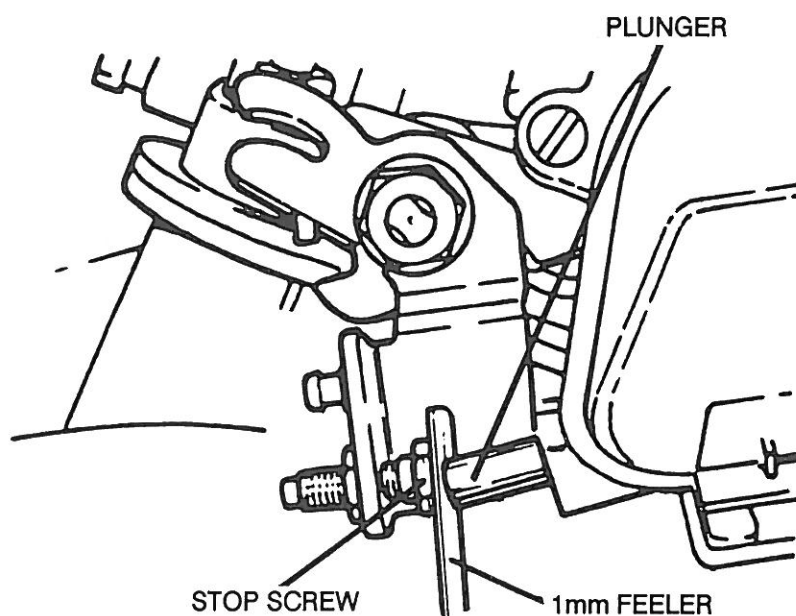

FIG. 15 STEPPER MOTOR ADJUSTMENT
3. Place a 1mm feeler gauge or drill between the plunger and the throttle lever stop screw (Fig.15).
4. The engine speed should now be 850-900 rpm. Adjust if necessary by slackening the locknut, setting the correct speed and re-tightening the locknut (Fig.15).